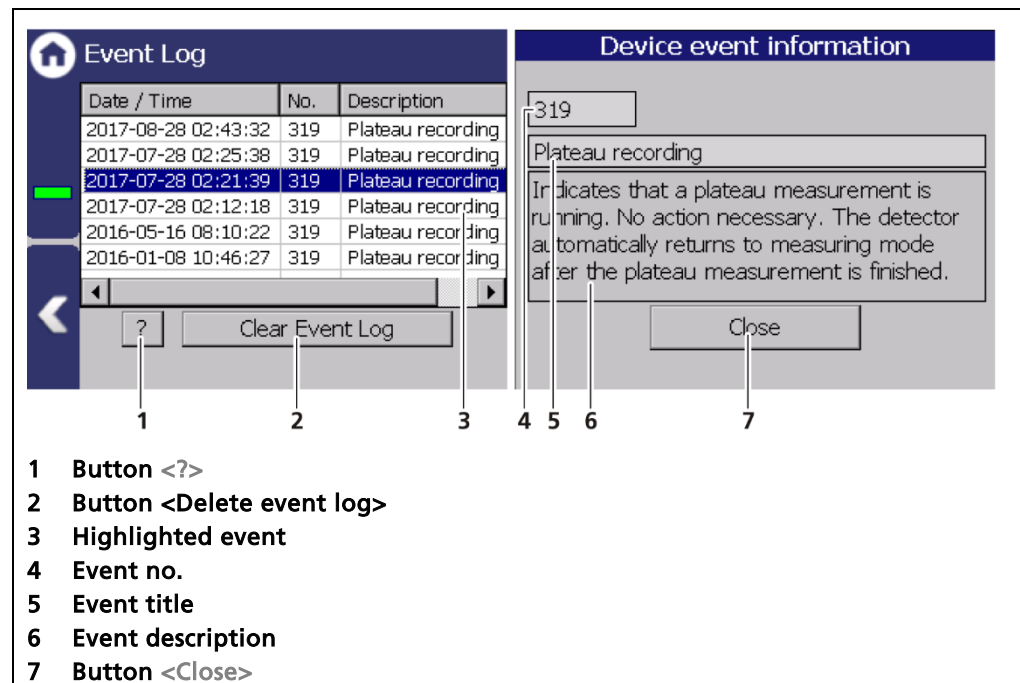

Fig. 77 Event log
1. Click on a line in the list (Fig. 77, item 3).
2. Click on <?> (Fig. 77, item 1).
3. Close the event description (Fig. 77, item 7) with the button <Close>.
- ▶ With the button <Delete event log> (Fig. 77, item 2) all events are deleted.